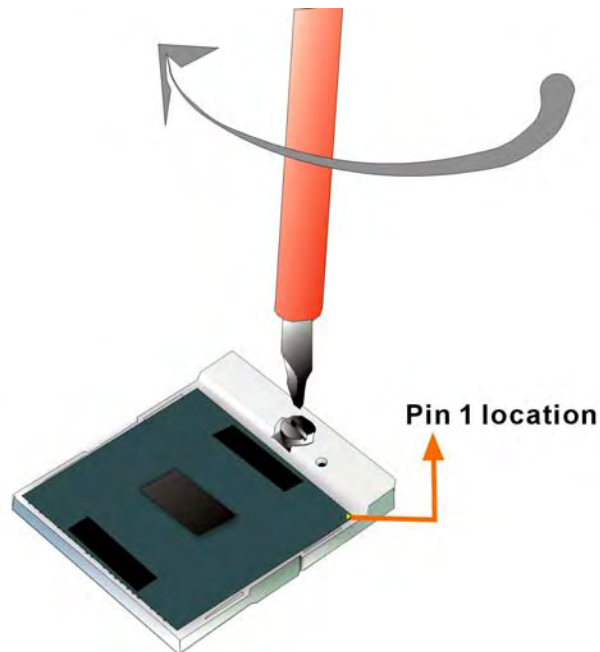

Figure 4-2: Lock the CPU Socket Retention Screw
- c. Rotate the retention screw into the locked position. (See **Figure 4-2**)